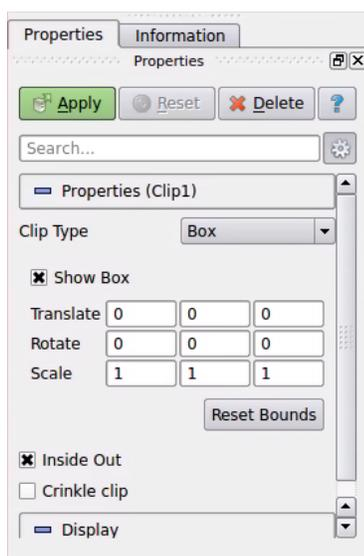

Figure 5: Screenshot of the Clip window in PARAVIEW.
- **Clip** In order to visualize a section of the domain, since the fields are discrete, we are obliged to perform a **Clip**. The **Clip** window is shown in the Figure 5. By changing the **Clip Type** tab into **Box**, it is possible to set the dimensions and position of the box. It is important to click on the **Inside Out** button to select the particles that are inside the box. Once ready, click on **Apply** to get a new **Clip** object in the Pipeline Browser. You can manipulate it in the same way as the main dataset. You can also perform clips with planes. **Remark:** the **Slice** option does not work because the flow fields are not continuous. To make a slice, we currently apply a thin box-type clip to the dataset.